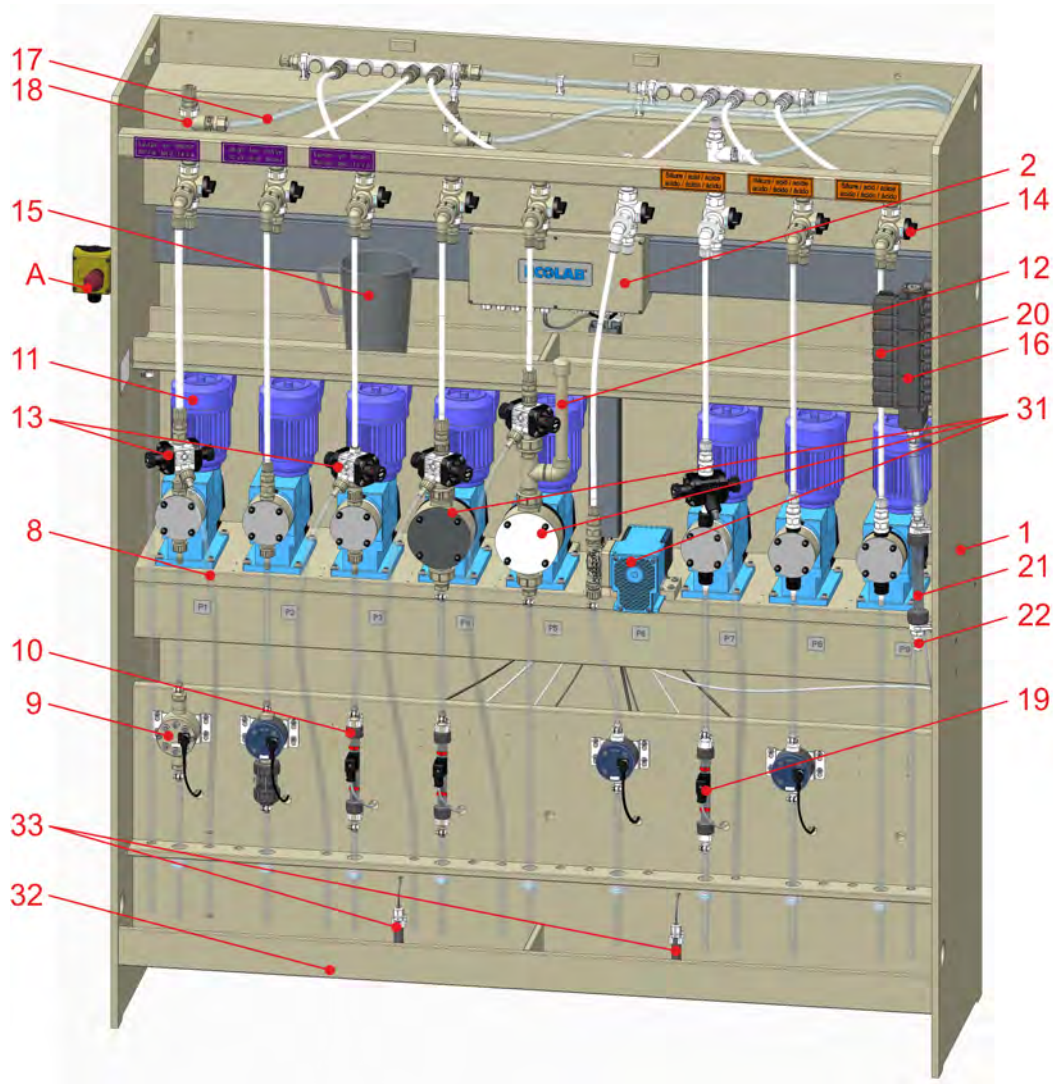

Fig. 4: Example: Setup
The control unit is connected to the integrated terminal box (Fig. 4 , no. 2), as is the wiring for all integrated, electrical components (metering pumps, etc.).
The ELADOS Pump Rack is designed for metering a maximum of nine products. Six metering pumps are pre-assembled on the stand as standard (Fig. 4 , no. 1); three more pumps can optionally be retrofitted.
The metering line for container 1 is designed for the Emulsion product series as a factory standard (Fig. 4 , item 3). The product is sucked in via a PP suction screen (Fig. 4 , item 7), with integrated suction screen (Fig. 4 , item 4), non-return valve (Fig. 4 , item 6) and empty signal float (Fig. 4 , item 5), with the metering pump EMP III 54 l/h in EPDM version (Fig. 4 , item 11).
An oval gear meter can be installed on the suction side to automatically monitor the flow rate (Fig. 4 , no. 9), or a variable-area flowmeter (Fig. 4 , no. 10) with a sending unit (Fig. 4 , no. 19). Both measurement devices are optionally available. The suction lance is connected to the pump by a Tygon hose of the dimension 9.5/15.9.
A pressure relief valve (Fig. 4 , item 13) can be installed on the pump; it opens if the metering pipe is blocked, and discharges the escaping product into the collecting tray. For this purpose, the collecting tray is divided into 2 areas (alkaline / acidic) and protected by a leak float (Fig. 4 , item 33).
A 3-way valve is located on the discharge outlet of the metering pump (Fig. 4 , item. 14); it is connected by means of a PEX pipe 12/16. This allows for sample taking into a measuring vessel (Fig. 4 , no. 15), thus providing a calibration option for the metering volume with the MyControl unit.
For safety reasons, a flush cycle with water follows metering. To allow this to happen, fresh water must be connected to the water connection (Fig. 4 , item 22); flushing occurs on opening the flushing valve (Fig. 4 , item 20).
Non-return valves integrated into the line make sure that the product cannot enter the fresh water line. Flushing can be visually checked by observing the variable-area flowmeter (Fig. 4 , item 21).
An integrated flow rate sender (Fig. 4 , item 19) is already installed in the facility for monitoring by the control unit.
The metering lines for container 2 (Fig. 4 , item 23) and 3 (Fig. 4 , item 24) are designed for alkaline media with a normal viscosity. EPDM is used as the sealing material for this reason. Unlike for the highly viscous Turbo emulsion medium (metering line 1), PEX metering tubes in the dimension 8/12 can be used for these containers. The suction hose is again a Tygon hose in the dimension 9.5/15.9. The metering pump and optional measuring devices are identical to metering line 1.
There is a means of installing a pressure relief valve (Fig. 4 , no. 13) which limits the line pressure to a preset value and discharges the excess product volume via the return connection (Fig. 4 , no. 8) into the sump or back into the container.
The metering components at these positions (Fig. 4 , items 25, 26, 27) are not pre-assembled and can be freely configured.
In addition, there is the option, when using an 80 or 120 l/h pump, to install a pulsation damper (Fig. 4 , item 12) to reduce any pressure pulsation. The suction lances can be connected to the pumps by means of Tygon hoses of dimension 9.5 / 15.9 or optionally 15.9 / 22.3 (in the case of high-viscosity media).